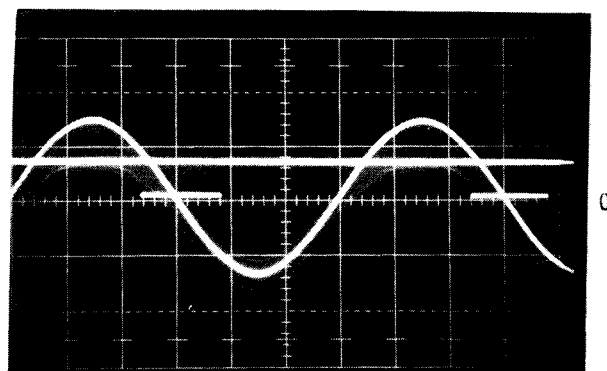

FIG. 5
- 1.2.10 Superimpose the two wave forms and compare to figure 5. Note that the delay angle is approximately 145° and the pulse train is approximately 85° long.
The trace should be the same as figure 5.
PULSE #3 thru #6- Move probe 1 per color code sequence with respect to GP3 thru GP6 for the two GPG boards. Compare to figure 5.